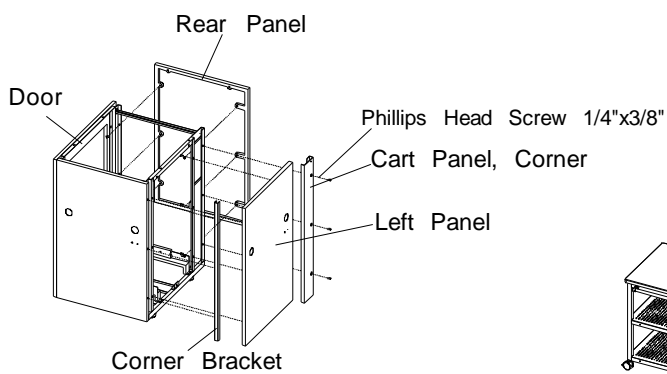

Fig. 3
- Reinstall Island Left Panel, Rear Panel, Corner Bracket as shown in Fig. 3, reinstall Cart Panel, Corner using 3 Phillips Head Screws 1/4"x3/8".